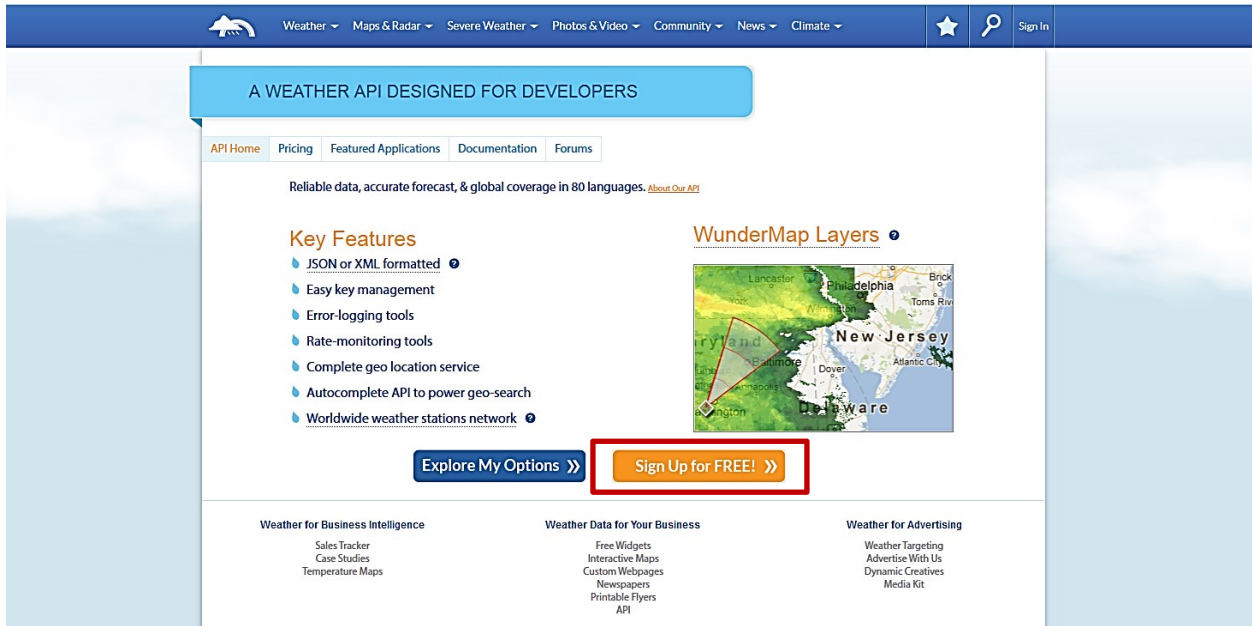

Figure 18: WeatherUnderground Website
- Go to WeatherUnderground site (Figure 18) the following URL <http://www.wunderground.com/weather/api/>